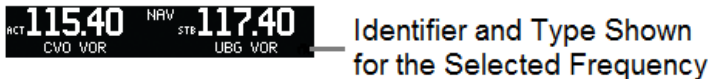

Figure 7-4. Nav Frequency Selection
1. Press **C/N**, if necessary, to access the Nav radio function. The NAV annunciation will appear on the display (Figure 7-4).